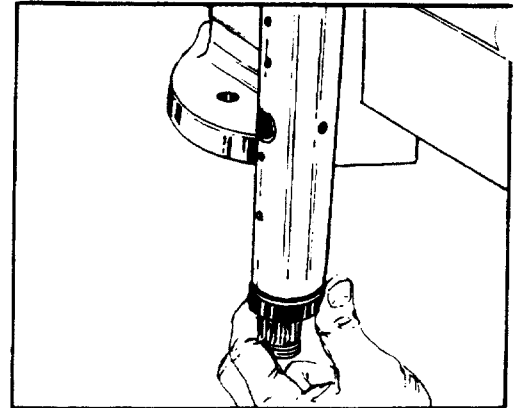

FIGURE 93.
42. Apply a small amount of clean grease on the lip of the seal (39). Install the seal onto the jacket tube and input shaft/wheel tube. See figure 93.